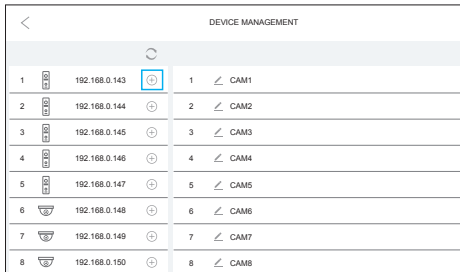

Figure 10
Step 4: Click on the Door Panel to be added in the device list as Figure 10. In the case of a multi-family outdoor panel equipped with two or more buttons, at this stage a list of available buttons that can be programmed will be displayed on the monitor screen (Figure 5). You must then select which button (F1, F2, etc.) the paired monitor should be assigned to. Assigning a selected button on one monitor, understood as Family 1, will prevent its reassignment on another monitor, understood as Family 2.